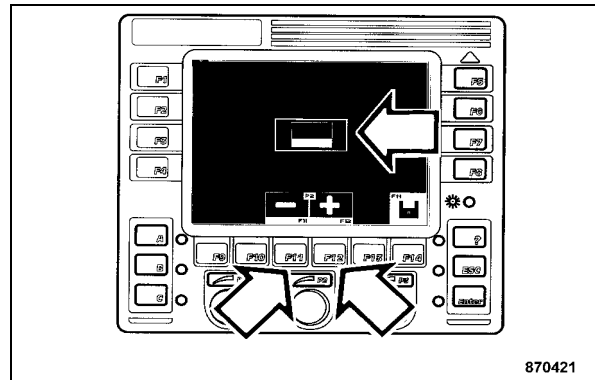

Fig. 87
- Press "F11" or "F12" (Fig. 87) to choose the desired printer language.